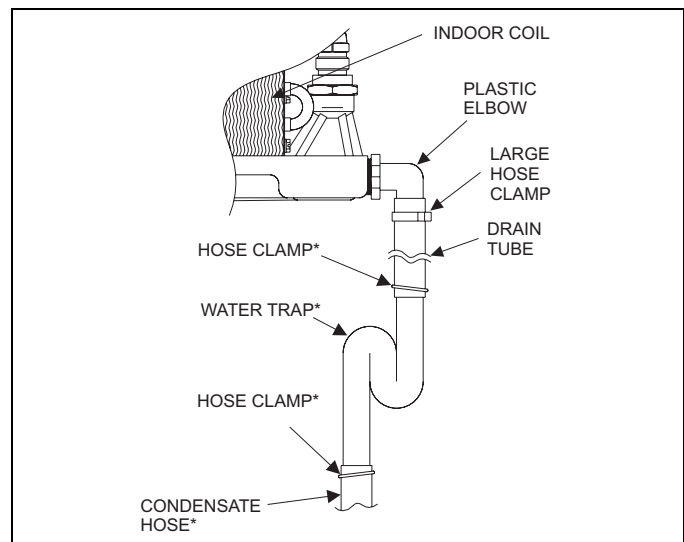

FIGURE 5: Water Trap
4. Attach primary drain tube to the barbed end of the elbow and secure with hose clamp as shown in Figure 5.
8. Attach water trap and condensate hose to coil drain tube with hose clamps. See Figure 5. Run condensate hose through the knockout in the bottom of the furnace and floor. The condensate line must be routed so that water does not accumulate underneath the home.
7. Attach primary drain tube to the barbed end of the elbow and secure with hose clamp as shown in Figure 5.
- Attach primary drain tube to the barbed end of the elbow and secure with hose clamp as shown in Figure 5.
- A water trap must be installed whenever a coil is used on the inlet side of the furnace. Water trap is packed with control box. Attach water trap and condensate hose to coil drain tube with hose clamps. See Figure 5. Run condensate hose through the knockout in the bottom of the furnace and floor. The condensate line must be routed so that water does not accumulate underneath the home.
Install water trap in the drain line, as shown in Figure 5. Rise of trap should be lower than the trap inlet. Failure to install a trap can result in condensate flowing out of the coil drain pan and into the furnace. The trap may be installed inside of the furnace or outside under the floor.